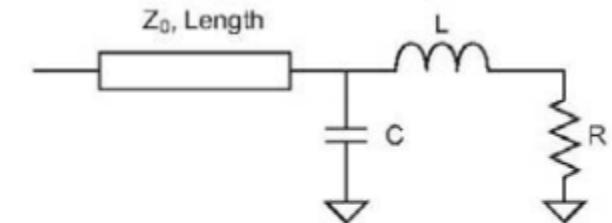

Figure 4 - A graphic representation of the load model
**Loads** - Defined by an S-parameter file or a model consisting of a transmission line length, a shunt capacitance, a resistance, and a series inductance, as shown in Figure 4.